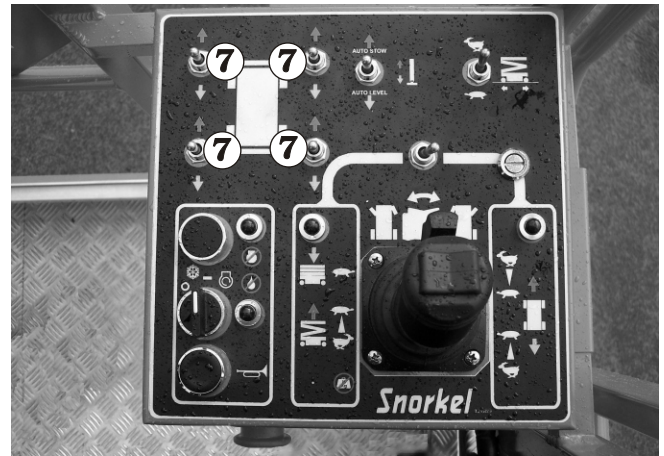

Figure 8.24
2. Push and hold the **Stabiliser** switches ⑦ forward until all the stabilisers are completely up (see Figure 8.24).